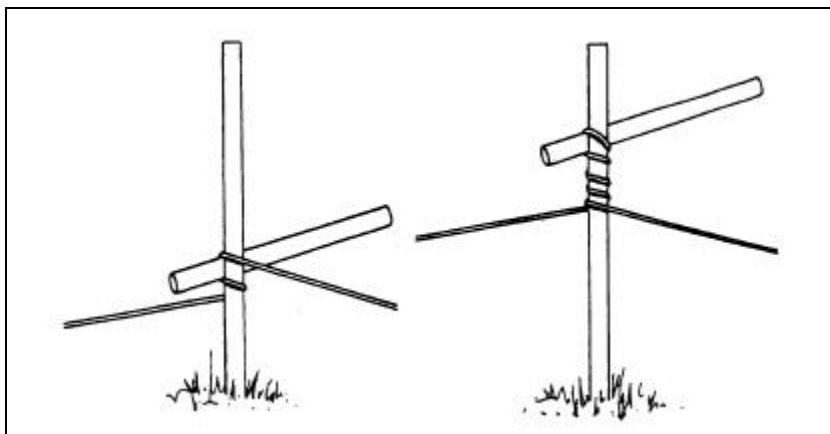

Fig 10-2-5 Spanish Windlass
11. **Spanish Windlass.** The spanish windlass can be used to move heavy loads over short distances (Fig 10-2-5). A rope is fastened to the weight to be moved and to an anchorage, and the windlass is erected on the line of the rope. The windlass consists of a vertical and horizontal spar with a bight of the rope taken around the horizontal spar. The weight is moved by rotating the windlass and the tow of the vertical spar moves towards the anchorage as the weight is pulled in. Care is required to ensure that: